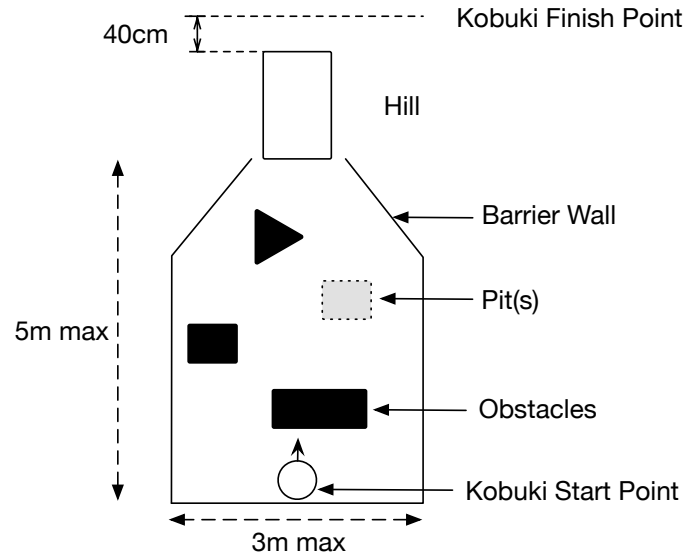

Figure 2: Obstacle course layout (note that items are not to scale)
- It must have a Stop/Go switch at the top level of the Simulink model exactly as shown in Figure 2 to facilitate control by the assessor
An example course layout is shown in Figure 2. Note that this course does NOT correspond
to the precise layout that your robot will be tested on – you will not know the locations of the objects on the course before you run your robot on it. The only information known about the course is that it will narrow towards the hill, which will be at the end of the course as shown in Figure 2. Your robot **MUST** stop **within 40cm** of reaching the bottom of the far side of the hill.